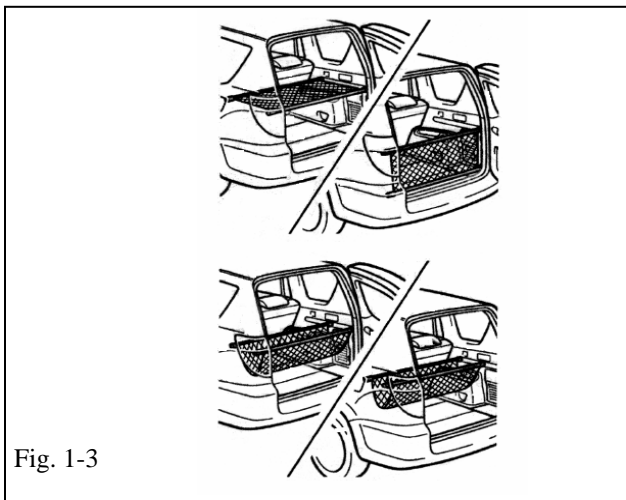

Fig. 1-3
- (f) Completed installations as shown in Fig 1-3.